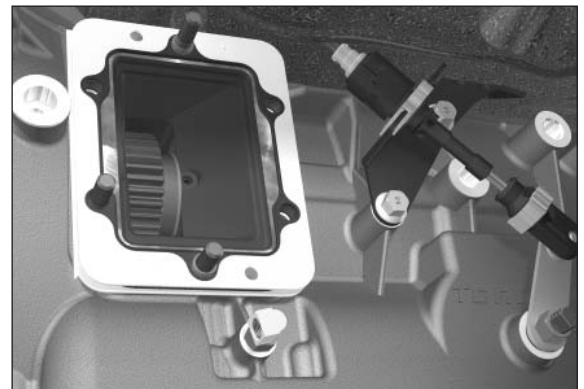

Figure 52
10. Install the gasket supplied with the PTO over the studs and against the geared adapter (**Fig. 52**).